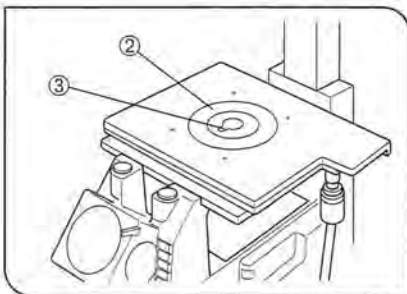

Fig. 84
3. Fit the stage center plate ② into the stage. (Fig. 84)
Ⓢ To facilitate confirmation of the objective front lens position and application of oil for oil immersion objectives, rotate the stage center plate so that the keyhole ③ will be facing the front. (Fig. 84)